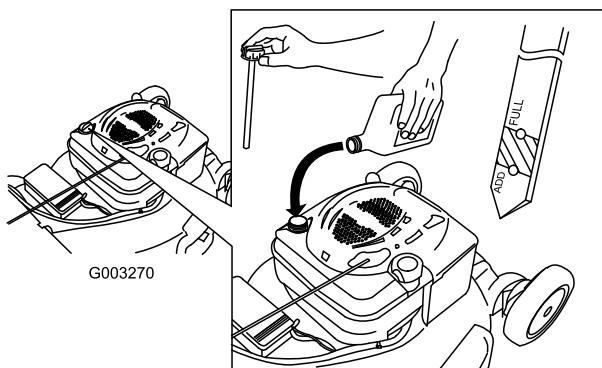

Figure 7
1. Remove the dipstick (Figure 7).
2. Slowly pour oil into the oil fill tube until the oil level reaches the Full line on the dipstick (Figure 7). **Do not overfill.** (Max. fill: 20 oz. (0.59 l), type: SAE 30W detergent oil with an API service classification of SF, SG, SH, SJ, SL, or higher.)